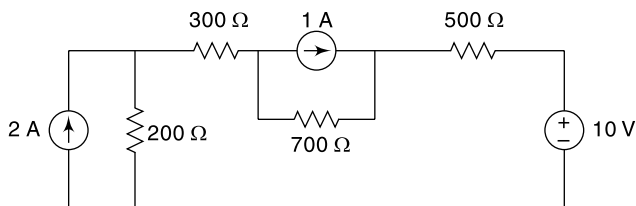

Fig. 14.33
14.61 Determine the voltage across a 500Ω resistor using source transformation in the circuit shown in Fig. 14.33.